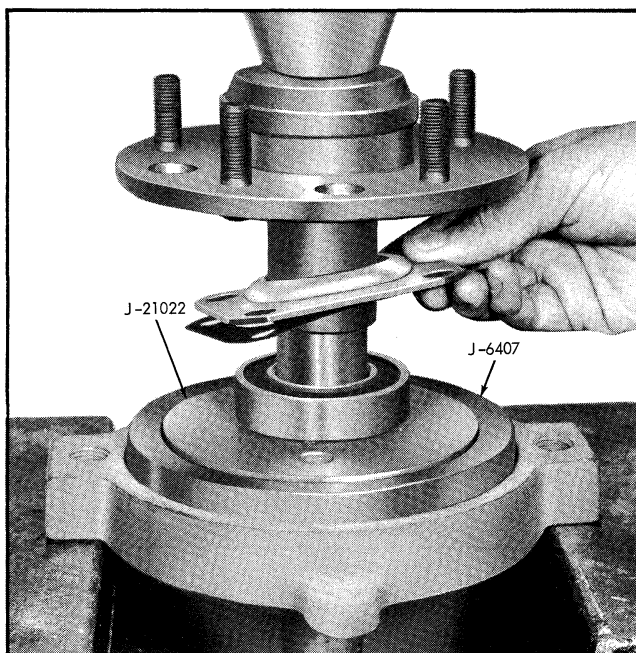

Fig. 4-12 Installing Axle Shaft Bearing
2. Press new axle shaft bearing against shoulder on axle shaft using installer J-21022 with holder J-6407. See Fig. 4-12.